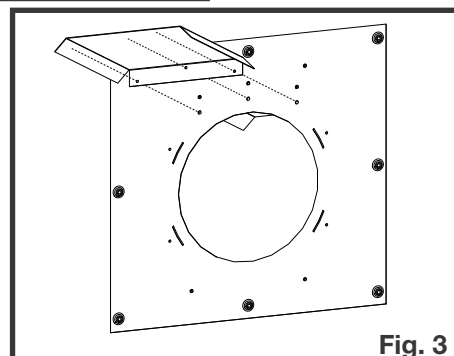

Fig. 3
3. Install the other vent shield on the opposite side of the firestop spacer (**Figure 3**).
3. Use the fasteners in step 1 to hold the new vent shield height (Figure 3).